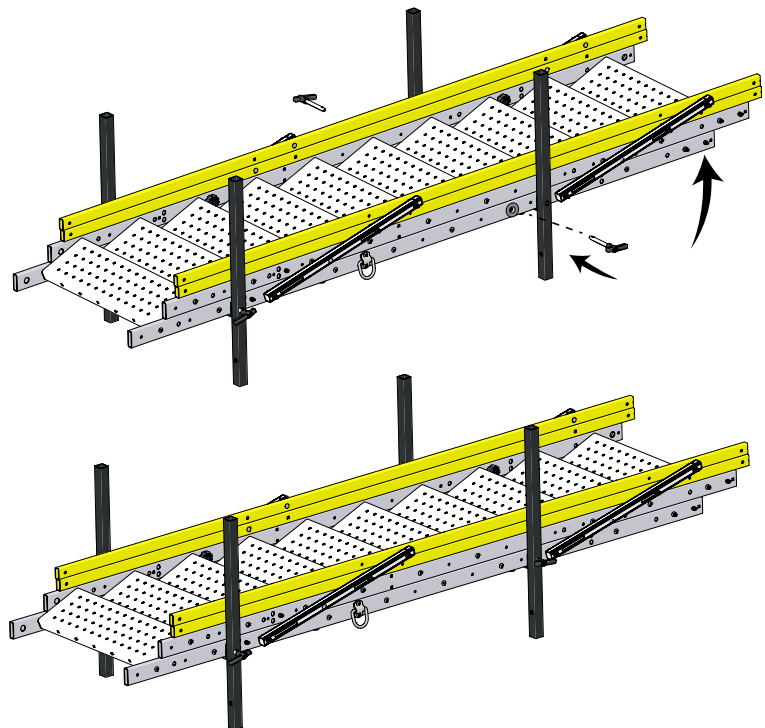

Fig. 6-3
- Lift up the opposite end of the module and repeat Step 1 for the two remaining corner post as shown in Fig 6-3.